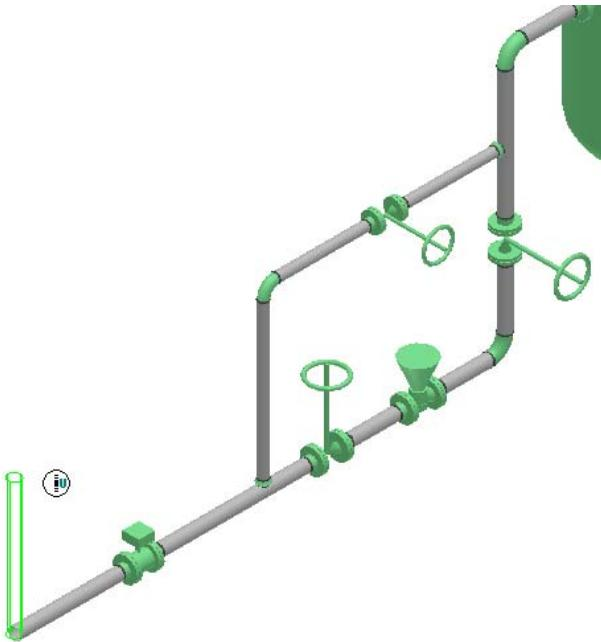

Figure 52: New Pipe Run Dialog Box
36. Select the end of the pipe to start the routing. You now see an outline of the pipe run in your model. Click to place the pipe run, as shown in Figure 52.